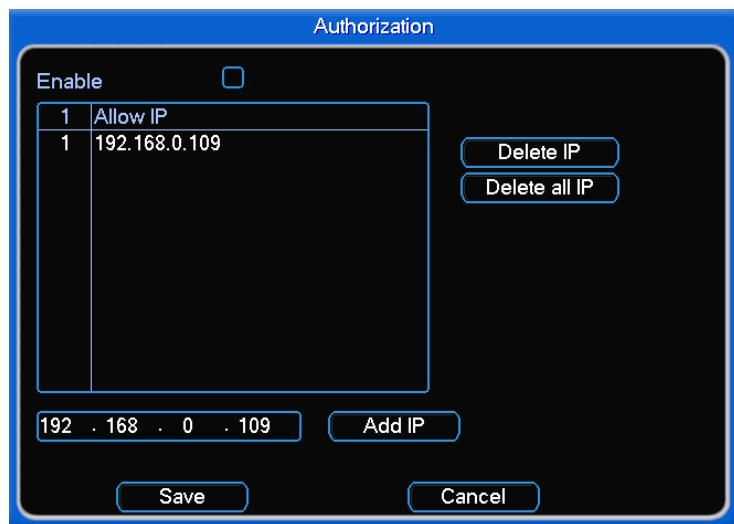

Figure 5-7
- Authorization: Click authorization button please highlight icon to enable IP authentication function. When this function is enabled, only IP in the list can login this DVR. See Figure 5-7.